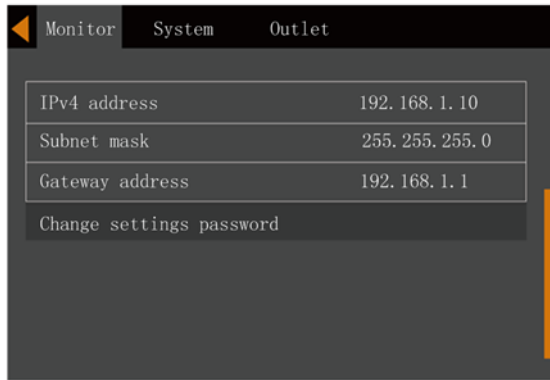

Figure 5-25 Changing the settings password
2. Press the  key, then press the  key to select 'Change settings password', see Figure 5-25.